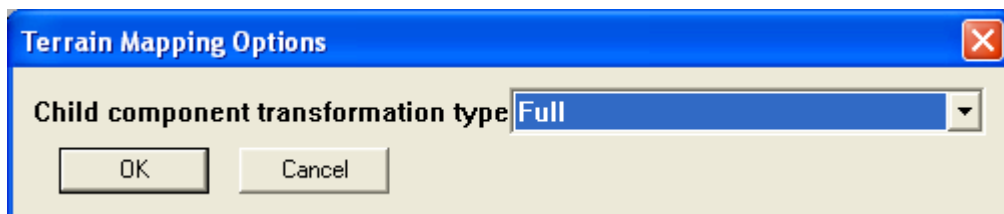

Figure 19: Terrain mapping options dialog-box.
4. Set the options in the terrain mapping options dialog box shown below in Figure 19 and press the “OK” button.